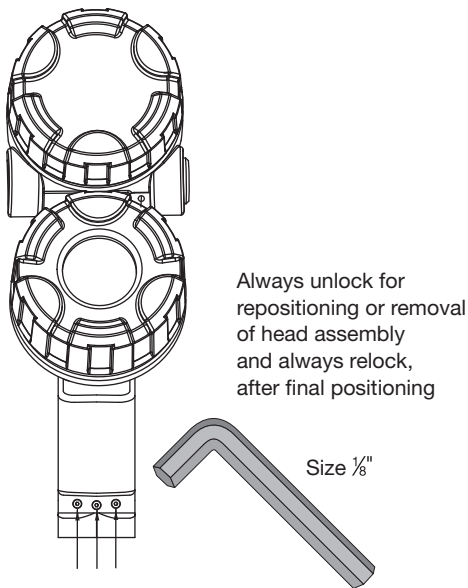

Figure 8
4. Loosen the transmitter head lock screws (socket type) and position conduit outlet in the desired direction. See Figure 8.
NOTE: It is recommended that shut-off valves be installed in each equalizing line to the chamber, along with a drain valve (refer to Figure 8). Equalizing lines should be sized at least as large as the connections provided at the chamber.
3. Loosen the transmitter head lock screws (socket type) and position conduit outlet in the desired direction. See Figure 8.